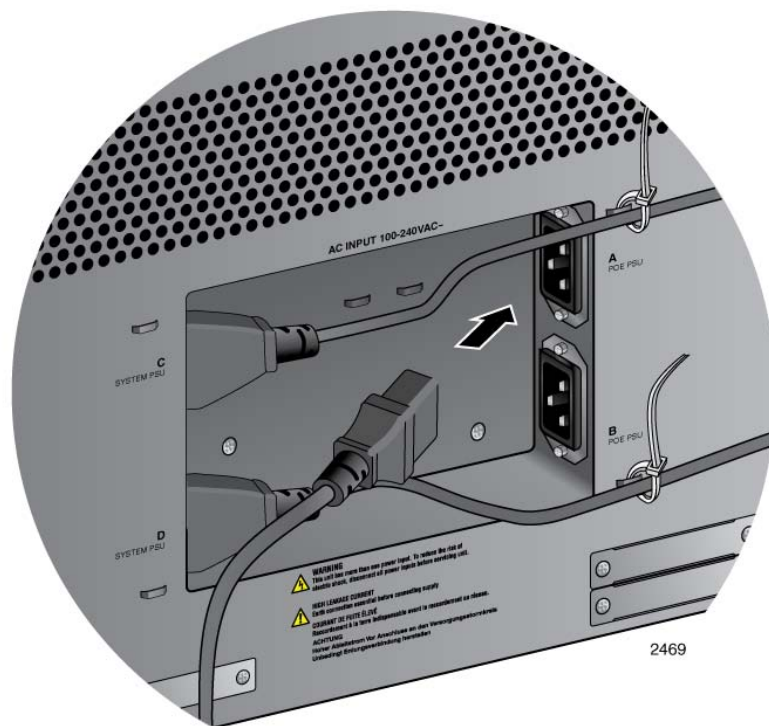

Figure 125. Connecting the AC Power Cord for the AT-SBxPWRPOE1 Power Supply
2. Plug the AC power cord that comes with the power supply into one of the plugs, as shown in Figure 125.